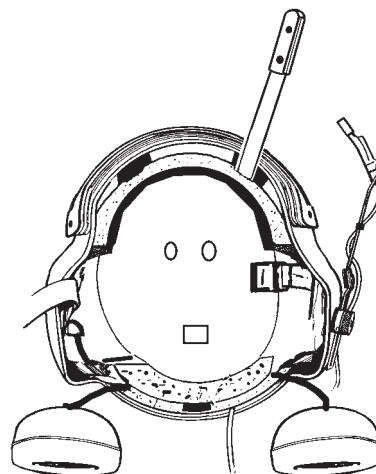

Figure 4-15. Removing Energy-Absorbing Liner
4. Referring to Figure 4-15, use a spatula to separate the hook-and-pile fastener attaching the energy-absorbing liner to the helmet shell.